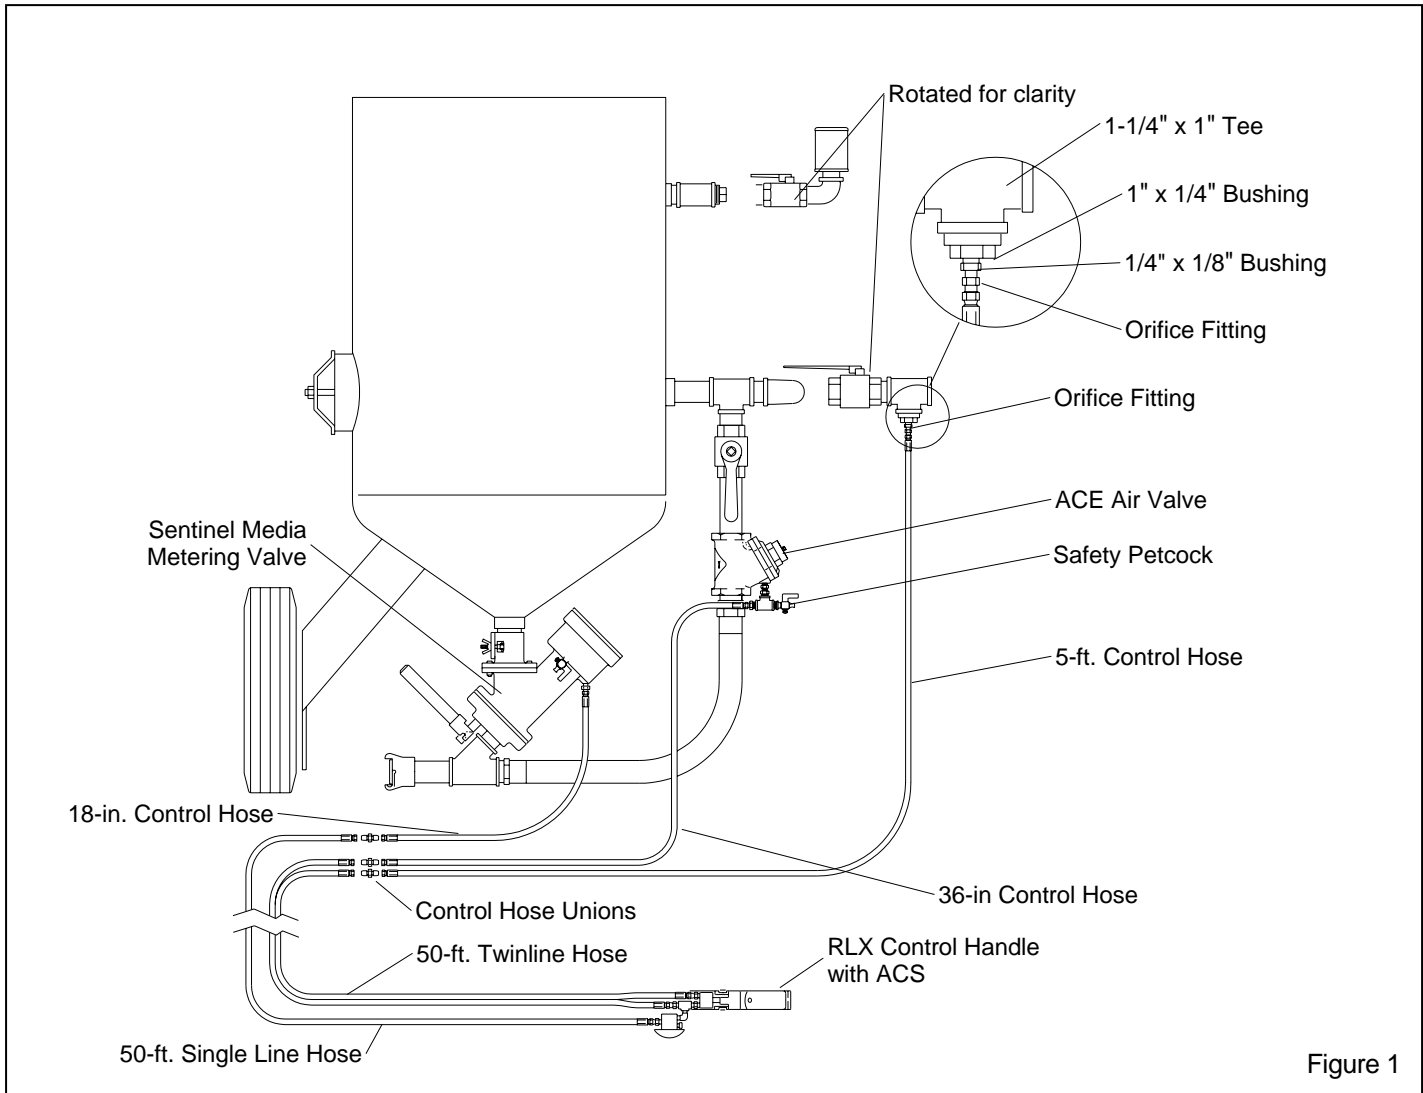

Figure 1
1.3.1 The components of the Sentinel remote control system are shown in Figure 1. They include the Sentinel pneumatically-operated abrasive metering valve, ACE air valve, RLX Control Handle with abrasive cut-off (ACS) air switch assembly, 50-foot twinline control hose, 50-foot single-line control hose, 18-inch hose, 4-foot long twinline control hose, and all necessary fittings.
1.4.2 Sentinel Remote Controls operate on the "return air" principle (See Figure 1). Control air travels from the orifice, down the outbound twinline and escapes through an opening located under the control handle lever. As long as air escapes through the opening, the remote control system remains inactive. When the control handle lever is pressed, the opening is sealed, and air from the outbound line returns through the inbound twinline, which opens both the abrasive metering valve and air valve to start the blasting process. Releasing the handle exhausts the control air, the valves close and blasting stops.
2.2.8 Connect the manual inlet valve and a second tee (Tee No. 2) to the blast machine as shown. NOTE: The second tee and all fittings necessary to complete the assembly shown in the detail circle in Figure 1 are included with the remote system.
2.2.9 Refer to the detail circle in Figure 1, and install the bushings and 1/16" orifice fitting.
2.2.10 Assemble a manual outlet valve assembly, and install it as shown. NOTE: Clemco supplies an exhaust muffler with all blast machines 1.5 cubic feet and larger. The muffler reduces exhaust noise and directs the exhaust downward, which prevents abrasive from exhausting into the air. When the blast machine is depressurized, the muffler body will pop up and diffuse the escaping air and abrasive. When the machine is fully depressurized, the muffler body will drop, permitting trapped abrasive to empty. For the muffler to work properly, it must be installed with the body facing up, as shown in Figure 1.
2.3 Blast Hose and Control Hose Connections Refer to Figure 1.
The fittings used in the tee assembly shown in Figure 1, must have a 1/16" orifice in the end that threads into the bushing. Never use fittings that do not have the 1/16" restricting orifice. Any other fittings will cause accidental actuation of the blast machine which can result in property damage, injury, or death.